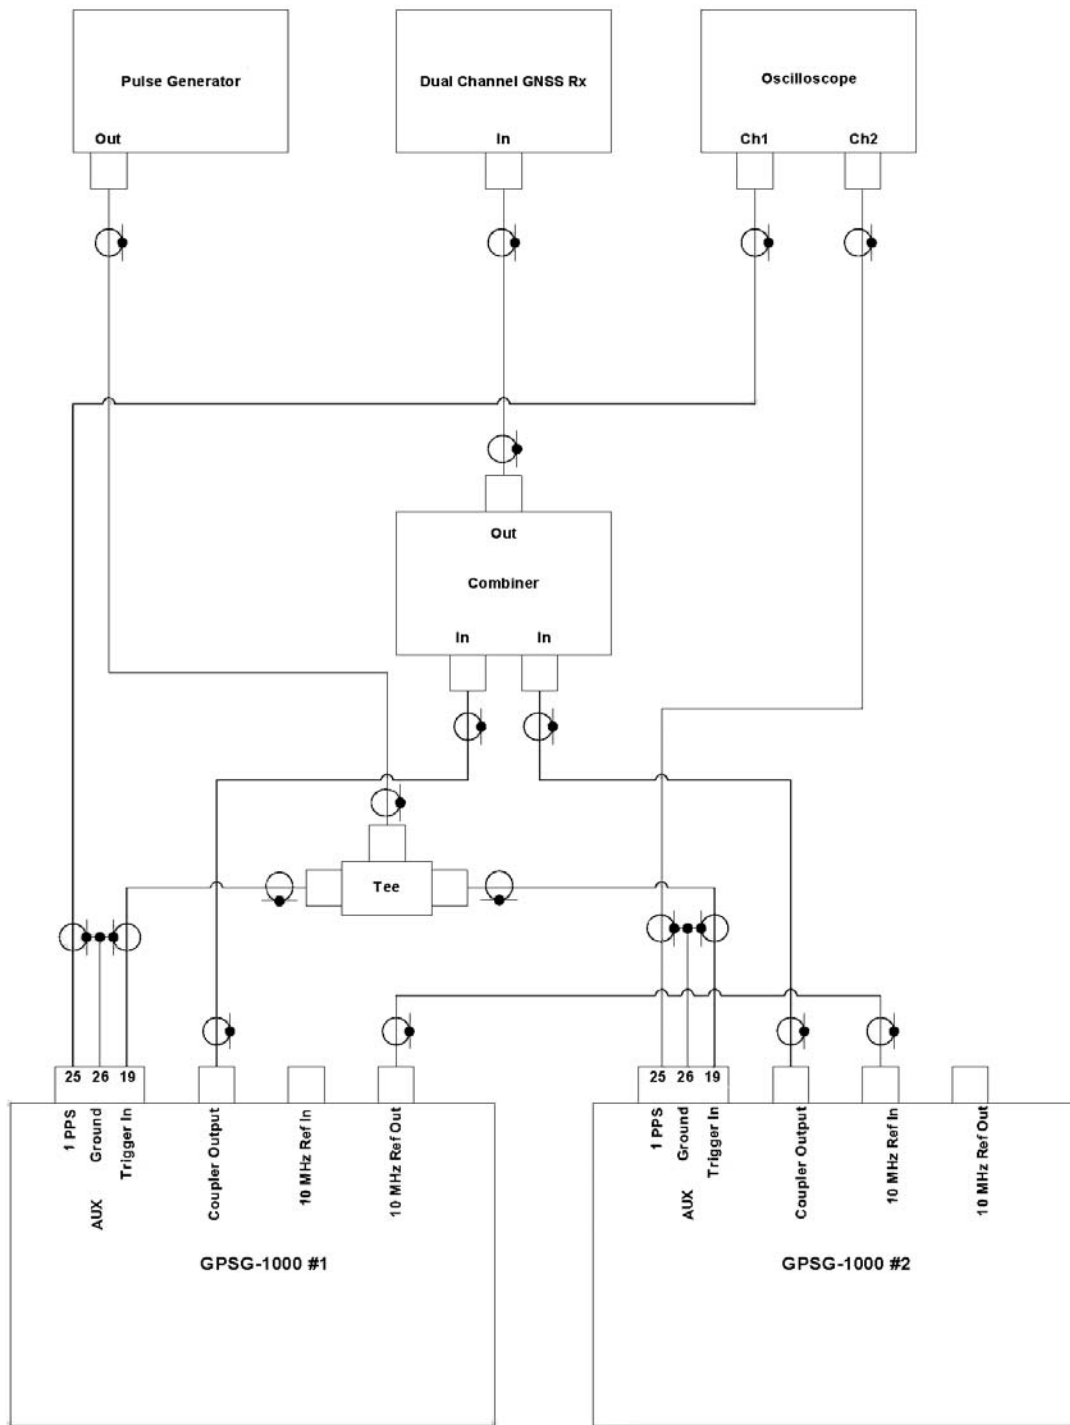

Figure 1
See Figure 1 for equipment interconnection. The interface cables for the AUX connectors on the GPSG-1000 units will be locally fabricated.
2. Set up and connect equipment as per Figure 1. Ensuring that the cables used to connect the pulse generator to the GPSG-1000 units and the 1PPS output of the GPSG-1000 units to the Oscilloscope are equal length ($\pm 3''$).
1. Verify the GPSG-1000 units' connections and interface as per Figure 1.
3. Set the Oscilloscope, connected as per Figure 1, to measure the leading edges of the 1 PPS signal from both GPSG-1000 units. Note the difference between the points that both 1 PPS signals begin to rise from their 0 VDC states. The time difference should be less than 10 nSec.